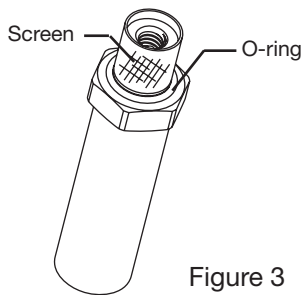
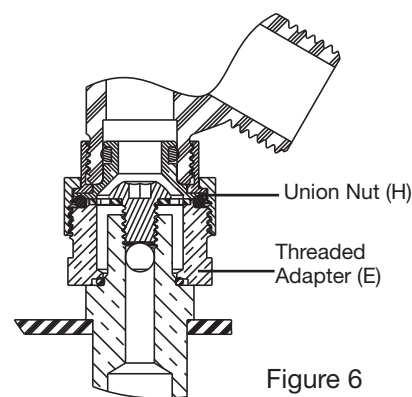

Figure 3
Figure 6
6. Remove the screen and the O-ring from the inlet fittings. (See Figure 3).
7. Using the O-ring grease provided, lubricate and install the new O-ring "A" provided onto the adapters (D).
8. Install threaded adapter (E) over the inlet fittings, being careful to insure that the O-ring seats in counter-bore on the underside of the adapter.
9. Install the stainless steel washer (F) on to the adapter.
10. Install the stainless steel hex screw (G) to retain the washer. Tighten using 3/16" Allen Wrench.
12. Install the union nut (H) over the flanged adapter and thread the flanged adapter (I) onto the A2-M1 body inlet. Tighten hand tight.
13. Lubricate and install the O-ring "C" onto the valve sleeve (K).
15. Upon completion of steps 7-14 for both body inlets, align and place both sleeves on top of threaded adapters. (See Figure 6).
16. Thread union nut (H) onto threaded adapter (E). Tighten wrench tight.